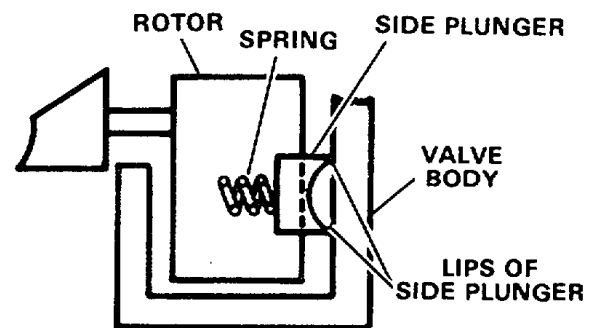

Figure 12C-8. Installing Side Plunger
2. Insert the rotor into the valve body. Preload the side plunger in the correct location to the body diameter, see Figure 12C-8.
The side plunger must be installed as shown in Figure 12C-8, with the lips of the plunger toward the top and bottom of the rotor.